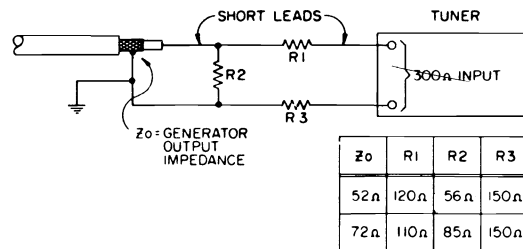
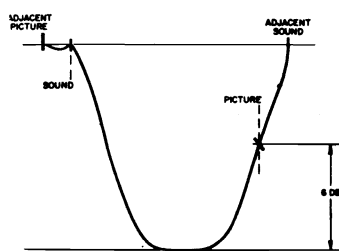

Figure 5 - Impedance matching network.
Figure 11 - Typical RF-IF Response.
| 7. | Oscilloscope, 2V-PP to T.P. (B) Sweep generator thru impedance matching network (see Figure 5) to the antenna terminals. Set picture marker at: a. 211.25 MC, channel 13 (for 470V063H02 tuner) b. 193.25 MC, channel 10 (for 470V064H01 tuner) Inject 45.75 MC marker into IF section by connecting CW output cable to outer shield of IF link cable at a point close to chassis. Keep marker amplitude at minimum to avoid distorting response. | Fine tuner screw to center of range. Channel selector to #13 Channel selector to #10 Oscillator slug setting: picture should fall at 45.75 MC (± 400 KC) marker on oscilloscope. See Figure 11. |